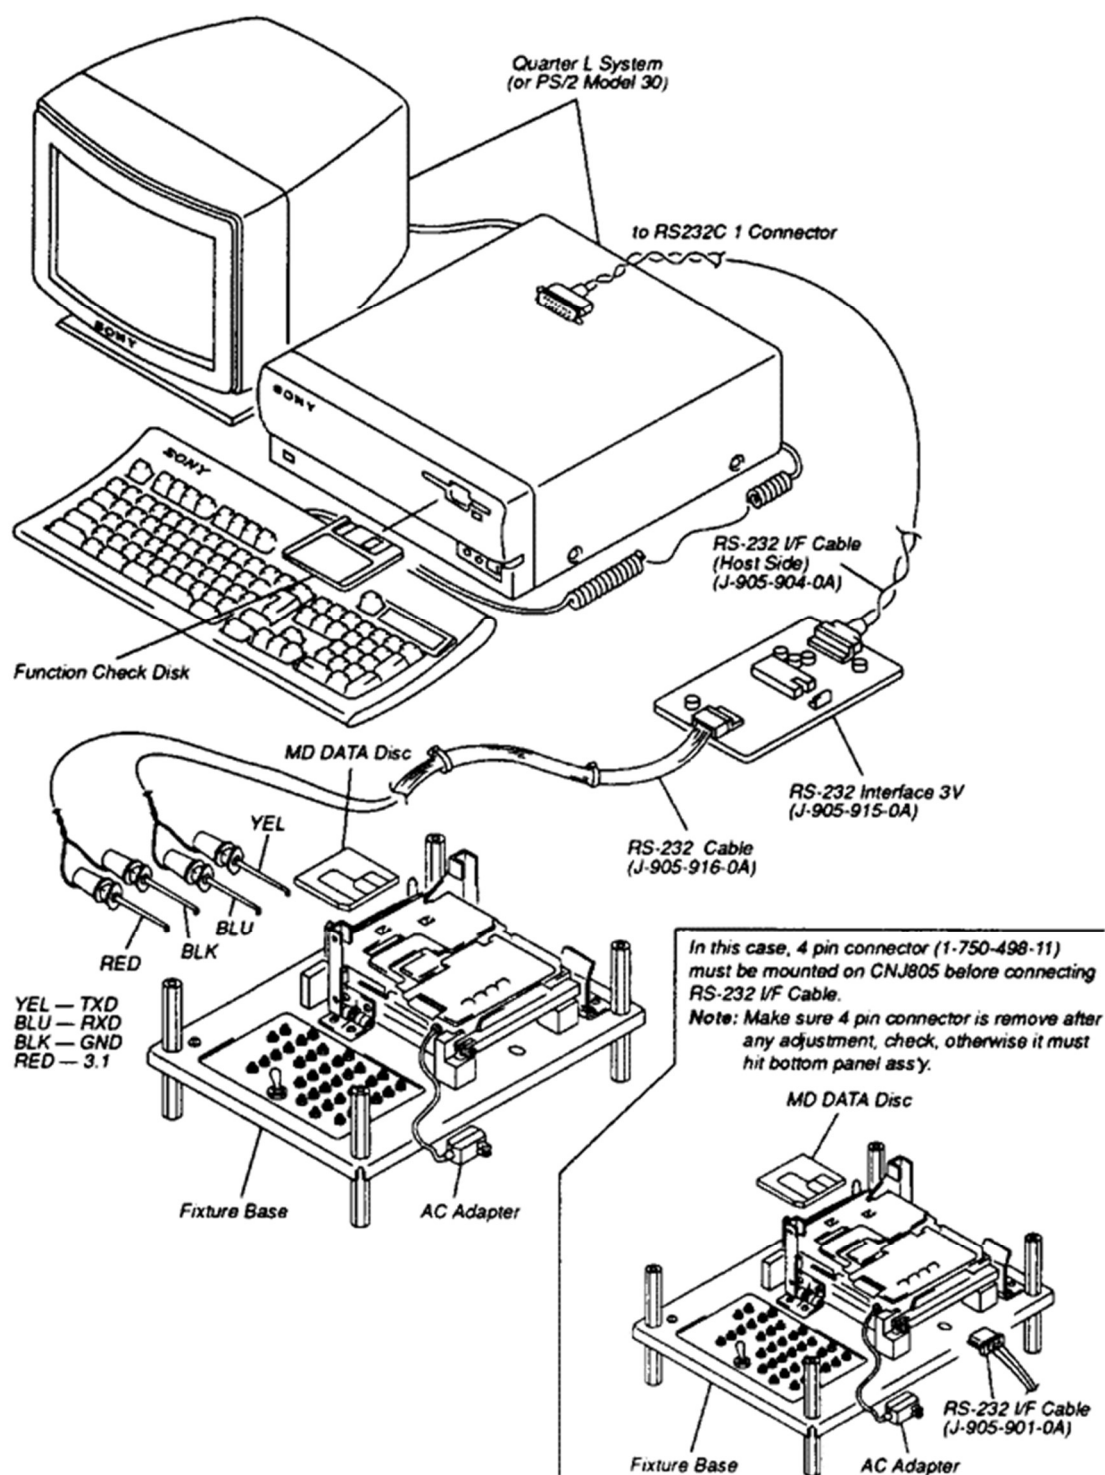

Fig. 2-3-2 Function Check and Adjustment
- Connect the unit to the host computer through a serial port as shown in Fig 2-3-2